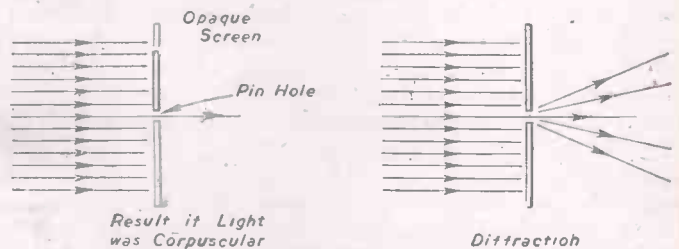

Fig. 3.—Corpuscular effect and diffraction fringes.
**Diffraction** is the small-scale spreading of light beyond the limits of the geometrical shadow which is observable when the source of light is small. At the edge of the shadow and parallel to it a few alternatively light and dark bands are seen which are called diffraction fringes, Fig. 3.